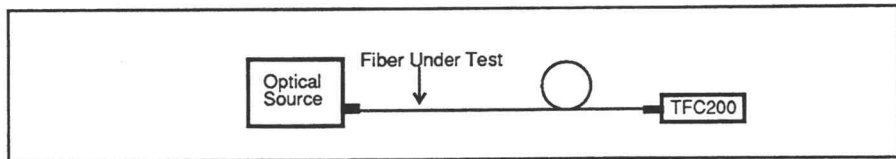

Fig. 2-5. Test Fiber Setup.
- 3) Remove the test jumper and connected the fiber under test to the optical source and TFC200 (see Fig. 2-5).